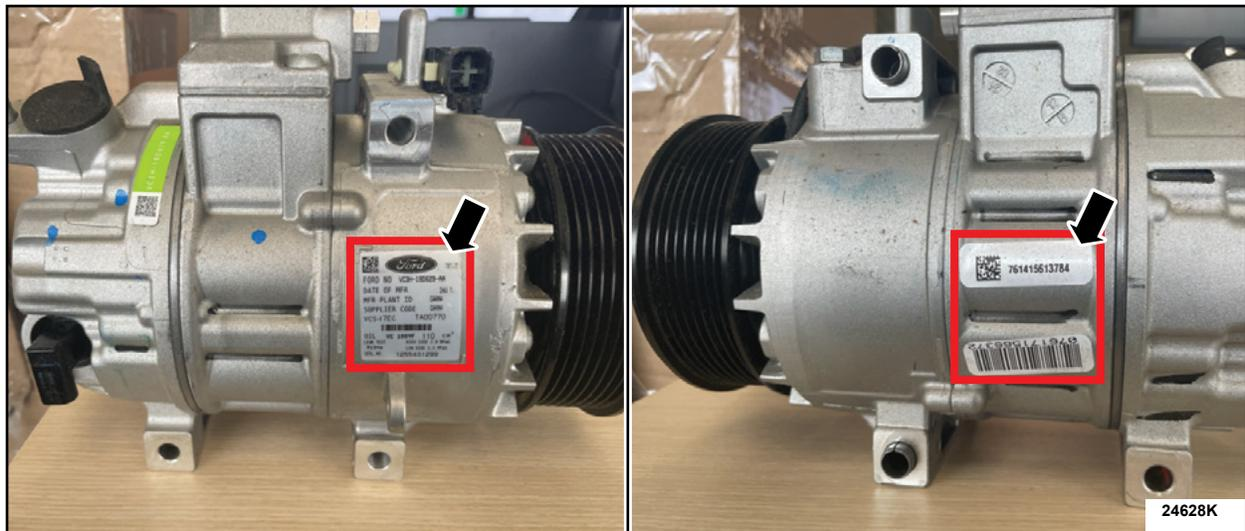

FIGURE 13
26. Take a picture of the 3 tags on the original A/C compressor and submit them with the warranty claim. See Figure 13.